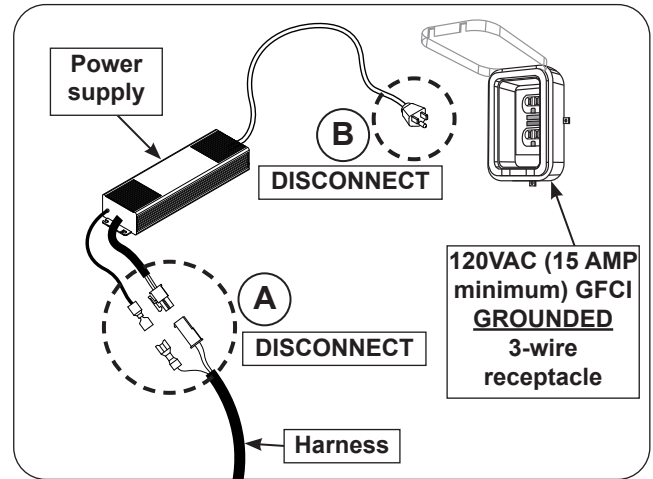

Fig. 44-1 Perform system reset
2. Disconnect the harness from the power supply (see Fig. 44-1, A).
3. Disconnect the power supply from the power source. (see Fig. 44-1, B).